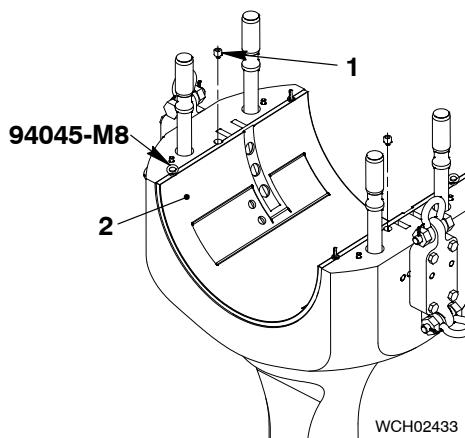

Fig. 7
- 4) Install the four eye bolts (94045-M8, Fig. 7) into the bearing shell (2).
- 8) Remove the two screws (1, Fig. 7) that hold the bearing shell in position.
- 9) Carefully operate the manual ratchets (H2, H3) to lift the bearing shell (2) from the connecting rod.
- 10) Lower the bearing shell (2) on to an applicable surface.
- 1) Clean the seating surface of the bearing shell (2, Fig. 7).
- 9) Install the two screws (1, Fig. 7) to the bearing shell (2).
- 10) Remove the manual ratchet (H2, Fig. 7) and the chain (94327).